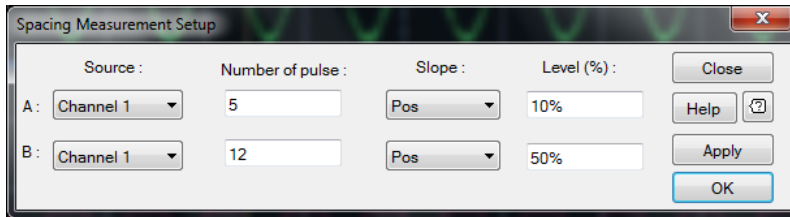

Figure 2-122 Spacing Measurement Setup dialog
- 2 The Spacing Measurement Setup dialog is displayed as shown in Figure 2-122.